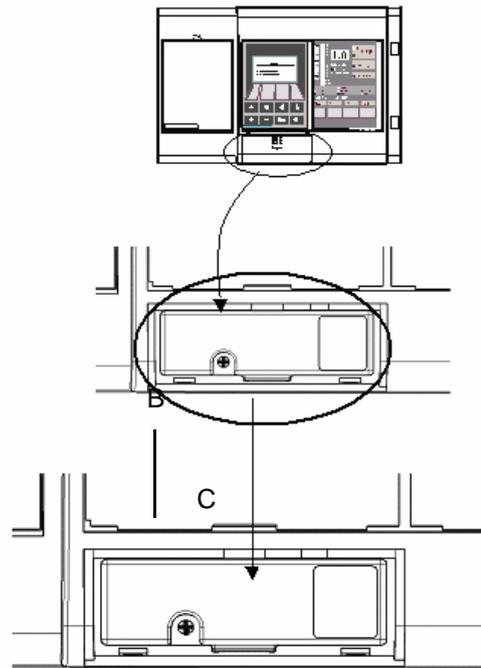

Figure 1: Replacing air filters in VLP and VLS detectors
1. Slide down and remove the air filter cover (A) in Figure 1 below.
2. Unscrew the recessed phillips head screw (B) in Figure 1 below.
3. Pull out the air filter cartridge (C) in Figure 1 above. This will stop the aspirator. If the aspirator does not stop, replace the filter switch.